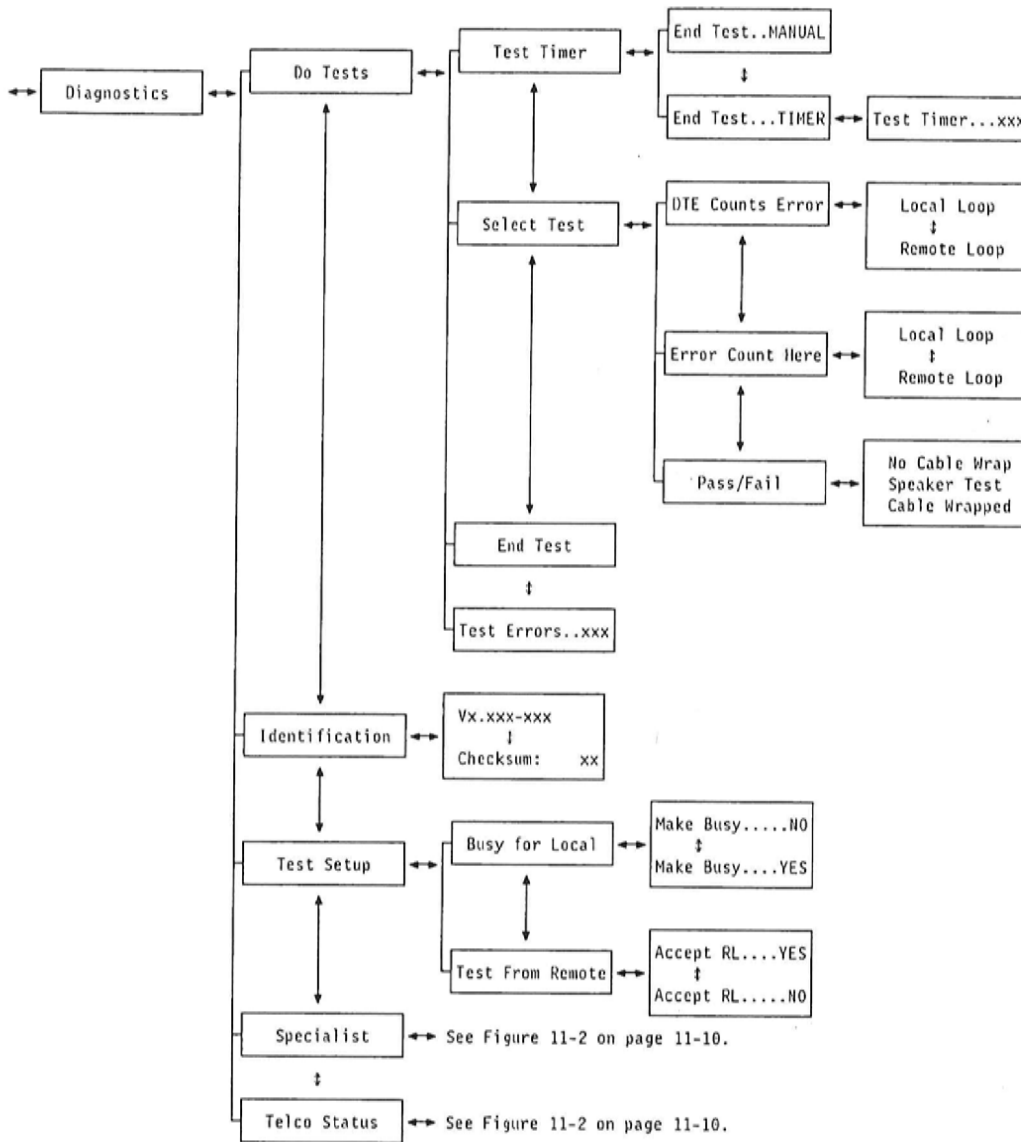

Figure 11-1. Tests and 7855-10 Identification
This chapter describes the diagnostic tests provided by 7855. They are the investigative tools of the process described in Chapter 10, "Problem Determination." Figure 11-1 shows the structure of the front panel diagnostic menu. Other methods for starting and stopping tests are described in the next section.
**Initiation:** The test is started when DTE interface pin 18 is raised and stopped when it is lowered. The test can also be started by pressing the left arrow key when when the LCD is displaying Local Loop in the DTE Counts Error section of Select Test, see Figure 11-1 on page 11-1. The modem also enters the test when it receives the &T1 cmdword, see page 12-19.
**Initiation:** This test can be started from the front panel by pressing the left arrow key when the LCD is displaying Local Loop in the Error Count Here section of Select Test, see Figure 11-1 on page 11-1. The modem also enters the test when it receives the &T8 cmdword, see page 12-19.
**Initiation:** This test can be started only if an end-to-end connection exists and only if modem B is configured to allow the test. The front panel can be used to allow the test by pressing the left arrow key on modem B when the LCD is displaying Accept RL...YES in the Test From Remote section of Test Setup. The modem also permits a remote loop test if it receives the &T4 cmdword, see page 12-19. The test starts when the DTE interface pin 21 (RL) is raised and it stops when it is lowered. The test can also be started from the front panel of modem A by pressing the left arrow key when the LCD is displaying Remote Loop in the DTE Counts Error section of Select Test, see Figure 11-1 on page 11-1. The modem also enters the test when it receives the &T6 cmdword, see page 12-19.
**Initiation:** This test can be started only if an end-to-end connection exists and only if modem B is configured to allow the test. The front panel can be used to allow the test by pressing the left arrow key on modem B when the LCD is displaying Accept RL...YES in the Test From Remote section of Test Setup. The modem also permits a remote loop test if it receives the &T4 cmdword, see page 12-19. The test can be started from the front panel by pressing the left arrow key on modem A when the LCD is displaying Remote Loop in the Error Count Here section of Select Test, see Figure 11-1 on page 11-1. Modem A also initiates the test when it receives the &T7 cmdword, see page 12-19.